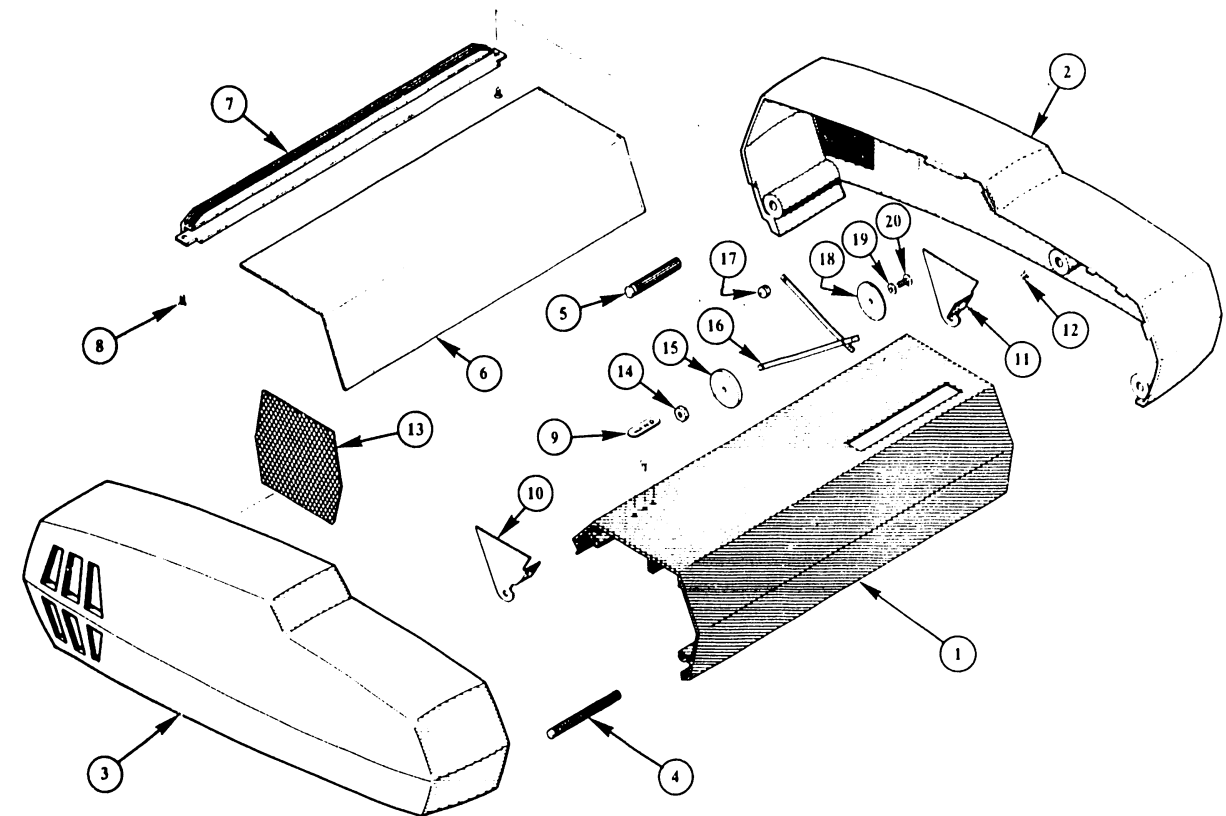

FIGURE 8-1 COVER ASSEMBLY
8.3.1 COVER ASSEMBLY PARTS LIST (SEE FIGURE 8-1)